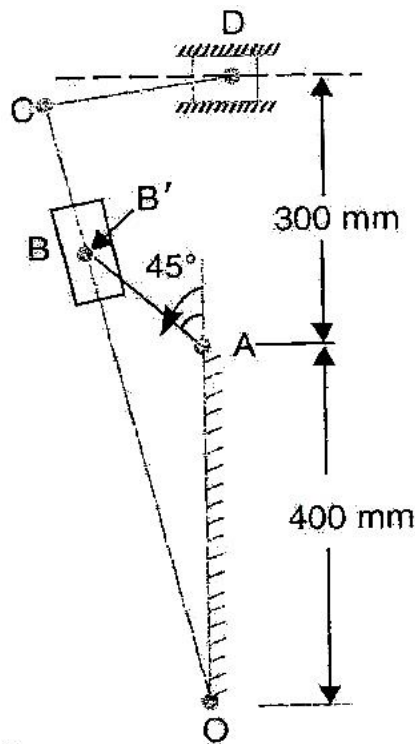

Fig. Q. 3
3. A mechanism of a crank and slotted level quick return motion is shown in fig. Q. 3. If the crank rotates counter clockwise at 120 rpm, determine for the configuration shown, the velocity and acceleration of the ram D. Also determine the angular acceleration of slotted lever. 16